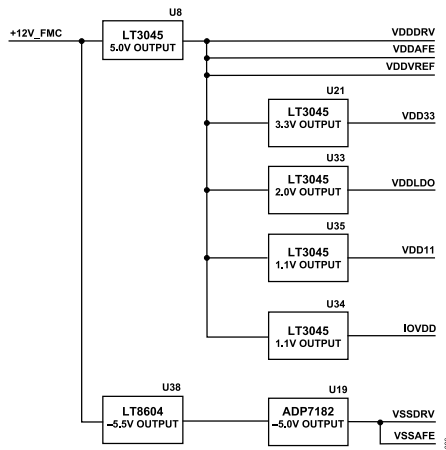

Figure 6. Power Circuitry Simplified Schematic
- ▶ On-board generated rails (default). The rails are taken in from the LT3045 regulators (U34 and U35), as shown in Figure 6.
- ▶ On-board generated rail (default). The rail is supplied by an LT3045 LDO regulator (U21), as shown in Figure 6.